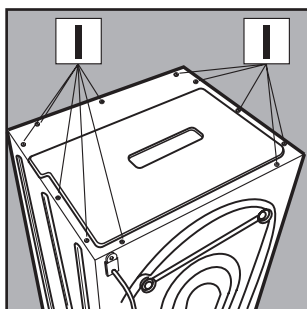

Fig. 13
2. Remove the cover by unscrewing screws **I** [fig. 13].